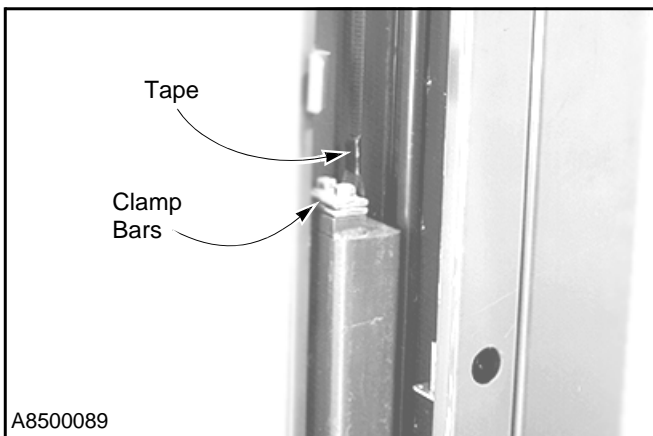

Figure 47
7. Remove the tape wrapped around the loose end of the strap. (See Figure 47)